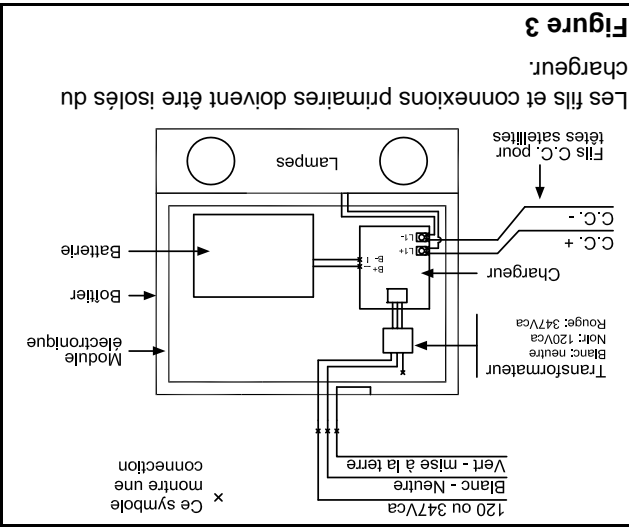

Figure 3
- a. Remove the unit cover (2). Disconnect the lamps from terminal block (see fig 3) and remove the electronic module (3). Three nuts secure the electronic module to the housing.
Auto-diagnostic models (refer to figure 3):
Montage sur boîte de jonction (figure 3):